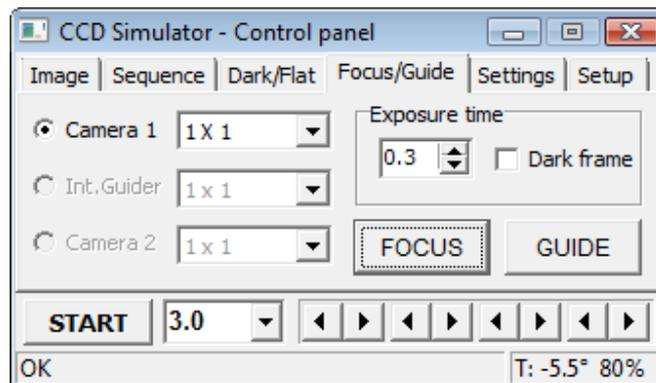

Fig. 13 – The Focus/Guide Page
3. Go to the Focus/Guide Page (see Fig. 13), select in the combo box the same exposure time ("exposure guide time") and the same binning of your test image, then click the Guide button.